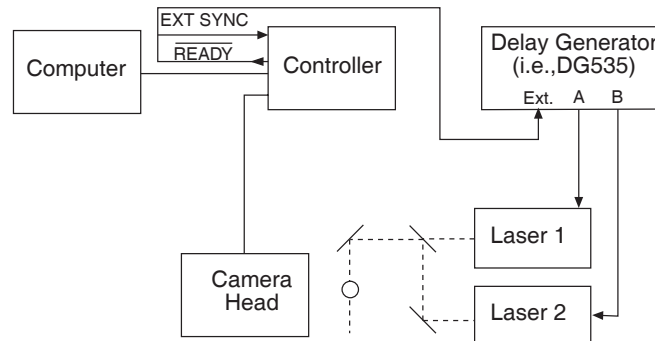

Figure 55. Another Hardware Setup for an IEC Measurement
**Example 2:** As shown in Figure 55, the **READY** signal from the controller can be used to trigger the controller by connecting it back into the **EXT SYNC** connector. At the same time, it can be used to trigger a DG-535.